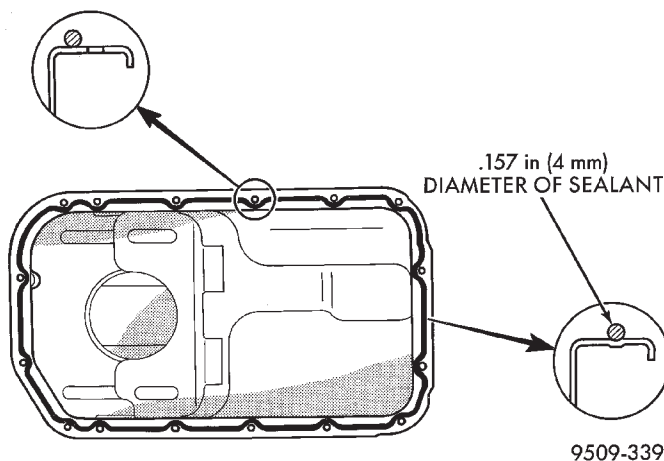

Fig. 64 Oil Pan Sealing
- (1) Apply sealant as shown in (Fig. 64).
- (2) Install pan and tighten screws to 6 N·m (50 in. lbs.).
- (3) Reverse removal procedure for installation.